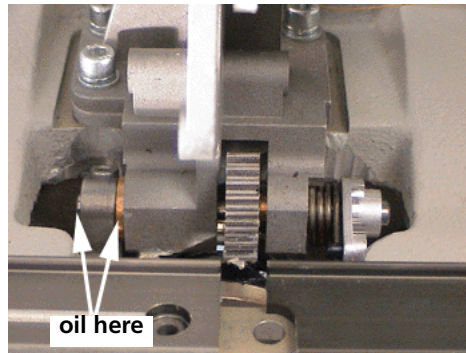

Figure 7-24
4. Please note that for illustration purposes, *Figure 7-24* reflects a front view without a needlecase, while you will be looking at the machine from the left side of the needlecase. Add 2-3 drops of sewing machine oil to the left side of the take-up lever cam follower on the shaft. (See *Figure 7-24*).
5. Add 2-3 drops of sewing machine oil to the right side of the take-up lever cam follower at the right edge of the cam follower (See *Figure 7-24*).